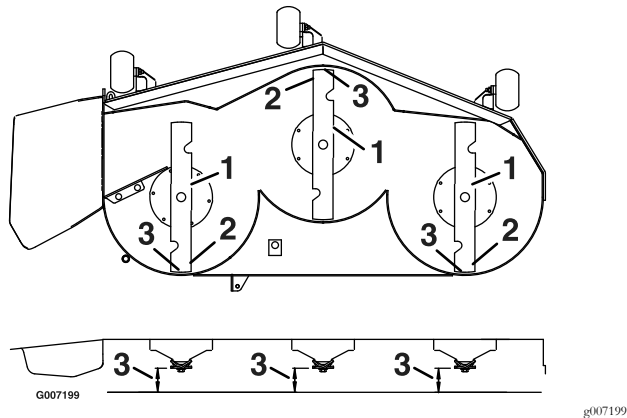

Figure 68
3. Carefully rotate the blades so they are facing front to rear (Figure 68).
4. Measure from the tip of the front blade to the flat surface and the tip of the rear blade to the flat surface (Figure 68).